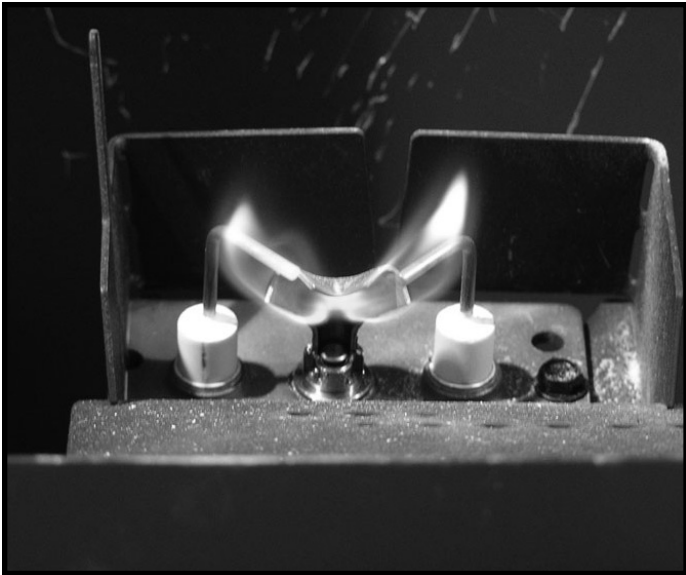

Figure 3.1 IPI Flame Patterns
- Inspect pilot flame pattern and strength. See Figures 3.1 and 3.2 for proper pilot flame pattern. Clean or replace orifice spud as necessary.